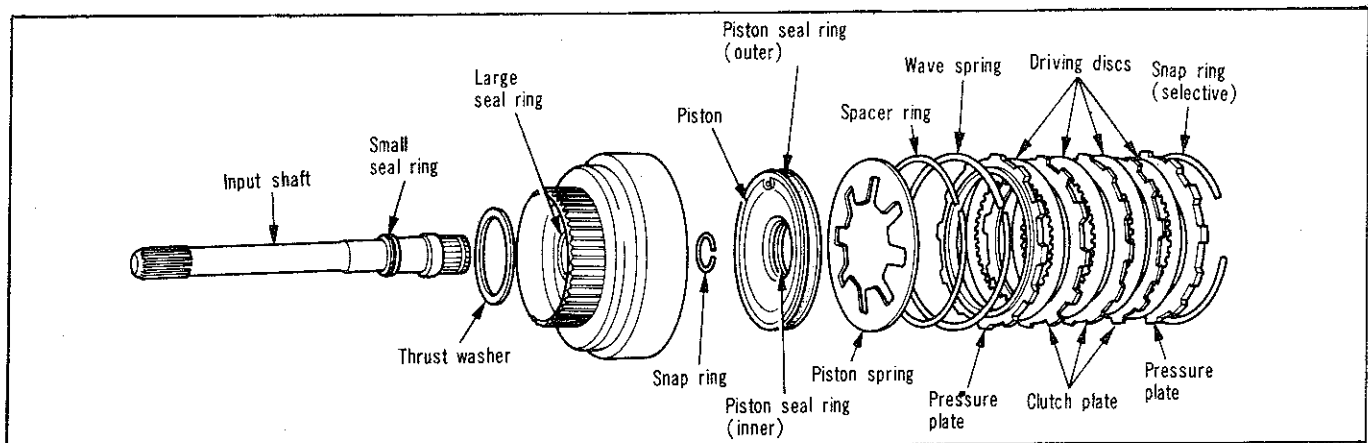

Fig. 52—Rear clutch — disassembled
Figure 52 shows a disassembled view of the rear clutch assembly.
Inspect interlocking seal rings (Fig. 52) on input shaft and piston retainer for wear or broken locks, make sure they turn freely in the grooves. Do not remove rings unless conditions warrant. Inspect rear clutch to front clutch thrust washer for wear. Washer thickness should be as specified, replace if necessary.
- (1) If removed, press input shaft into piston retainer and install snap ring.
- (2) Lubricate and install inner and outer seal rings on clutch piston. Make sure lip of seals face toward head of clutch retainer, and are properly seated in piston grooves (Fig. 52).
- (3) Place piston assembly in retainer and, with a twisting motion, seat piston in bottom of retainer.
- (4) Place clutch piston spring and spacer ring on top of piston in clutch retainer, make sure spring and spacer ring
are positioned in the retainer recess. Start one end of wave spring in retainer groove (Fig. 52), then progressively push or tap spring into place making sure it is fully seated in the groove.